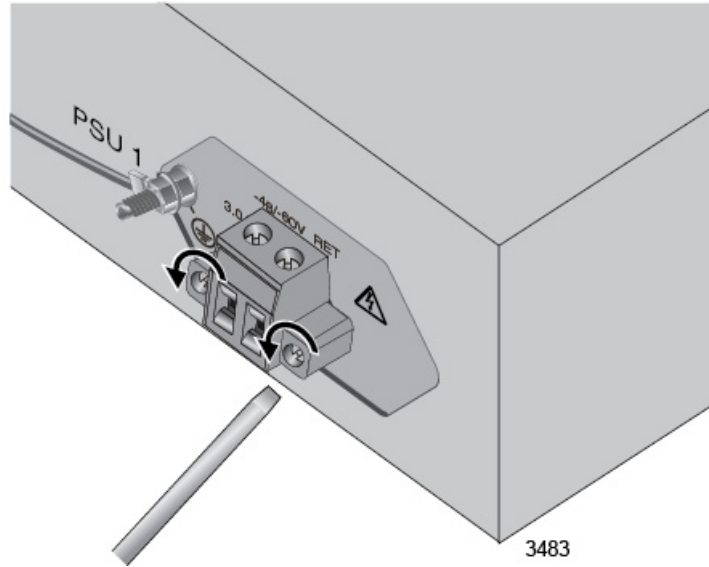

Figure 38. Loosening the Two Captive Screws on the DC Connector
2. Use a 3mm flat-head screwdriver to loosen the two captive screws that secure the DC connector to the chassis. Refer to Figure 38 on page 85.